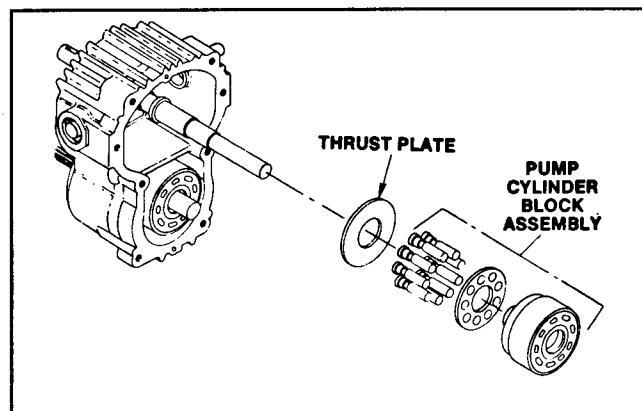

Figure 38
The pump section is the top piston group located in the upper chamber of the transmission housing (Fig. 38).
1. Lift the pump cylinder block assembly out of the transmission (Fig. 38). The pistons may come out of the cylinder bores during removal, however, there is no special order of pistons to bores within the cylinder block. Set the piston group aside, near the pump valve plate.